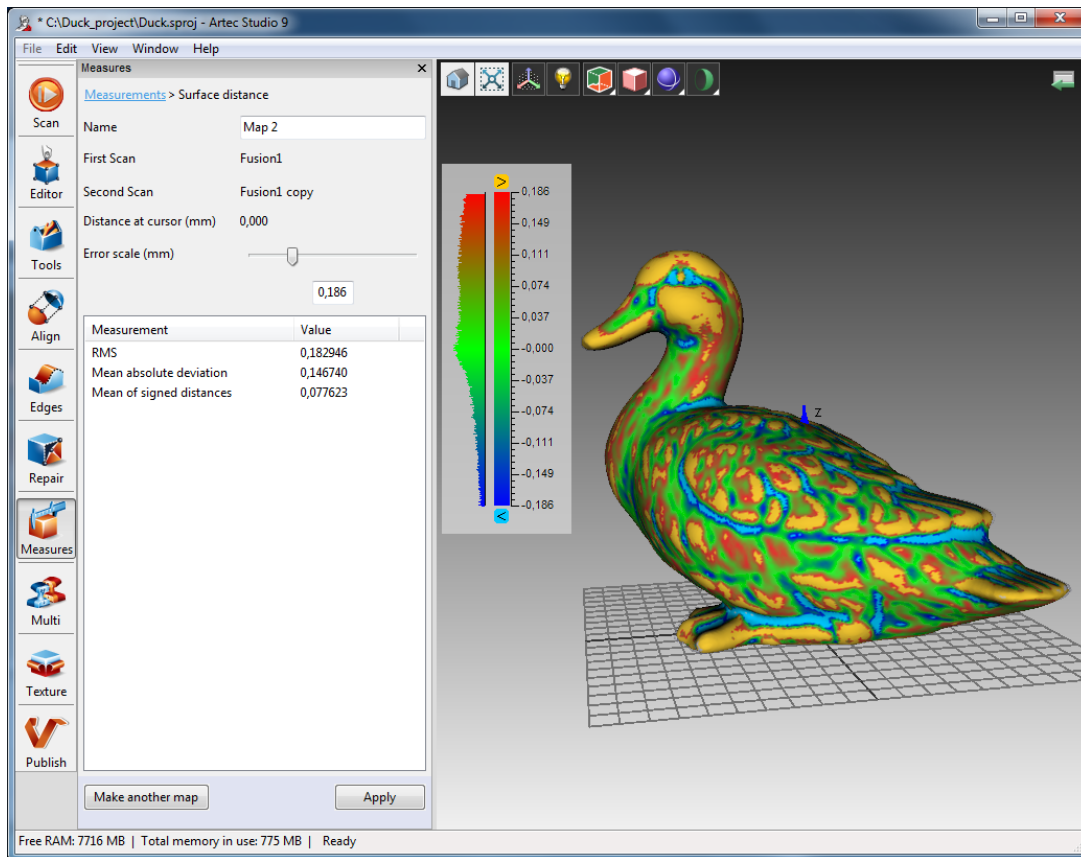

Figure 6.11: Surfaces selection for comparison
3. If necessary, specify the name of the distance map in the *Name* field of the left panel (figure 6.11). By default the application creates new distance maps with names *Map 1*, *Map 2*, etc.
5. Click *Calculate*. Once calculation is complete, the distance map appears in the *3D View* window as well as calculation results in the left panel (figure 6.11).